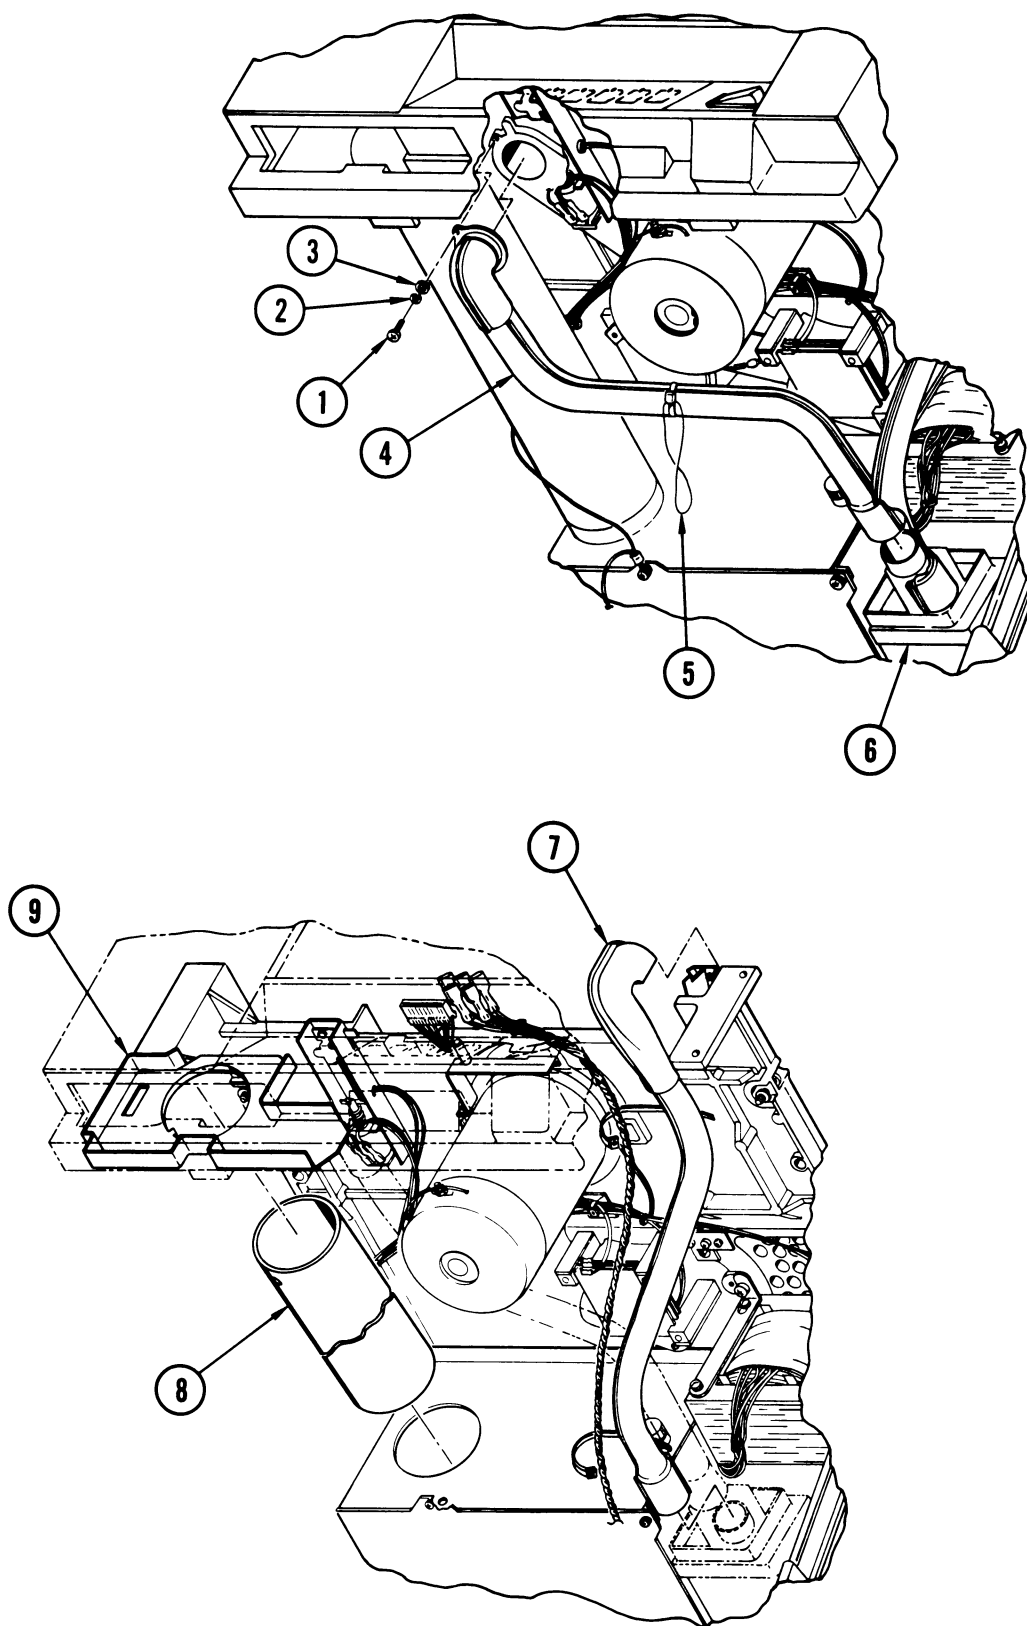

Figure 4-27. Top Plate Air Duct,
4-41. Removal and Replacment (Figure 4-27). Place the transport in service access position (paragraph 4-3). To replace the top-plate air duct, proceed as follows:
4-42. Front Panel Air Duct (Figure 4-27). Replace the front panel air duct as follows:
4-43. Air Intake Tube. (Figure 4-27). Replace the air intake tube as follows:
4-45. Disassembly, Removal and Replacement (Figure 4-27). To disassemble hub lock assembly and remove parts from top plate and supply motor, proceed as follows:
- c. Remove wire terminals from solenoid (3, Figure 4-27) and identify for reassembly.
- d. Remove two screws (1), and lockwashers (2), and remove solenoid (3) from top plate and spring (4) and washer (16) from solenoid plunger (5).
- e. If plunger (5) or bellcrank (8) must be replaced, remove supply motor in accordance with instructions in paragraph 4-44. Remove retaining ring (7) and bellcrank (8) from motor, and press out pin (6), releasing plunger (5).
4-47. Manual Unlock Assembly (Hub Lock) (Figure 4-27). To replace the manual unlock assembly or one of its parts, proceed as follows:
- b. Remove manual unlock assembly from top plate by removing two screws (9, Figure 4-27) and lockwashers (10).
- c. Remove pin (14) from bracket (15) by removing screw (11), lockwasher (12), and flatwasher (13).